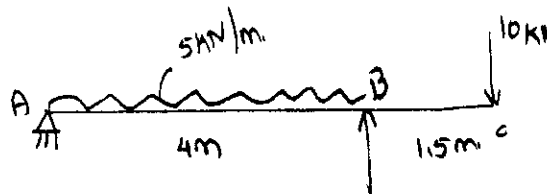

Fig. Q6(b)
b. Draw SFD and BMD for the beam shown in Fig. Q6(b). Indicate the salient points and locate point of contra flexure. (10 Marks)